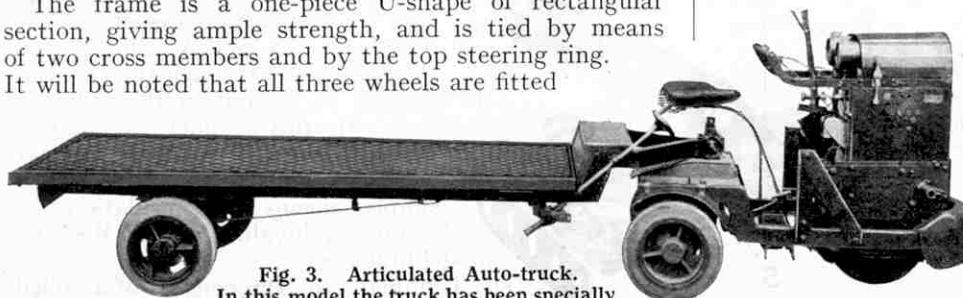

Fig. 3. Articulated Auto-truck. In this model the truck has been specially designed for use as a tractor.
Another type of Lister truck, specially designed for drawing a trailer, is shown in Fig. 3. The mechanical features of this truck are
Fig. 3 shows a 6 B.A. Bolt 5 used as the contact stud in a Meccano Morse key, or tapper. The bolt is insulated from the base plate, but the key 4 is in metallic contact with it. One wire is attached to the bolt 5 and another to the base plate, so that the circuit is completed whenever the bolt 8 of the key touches bolt 5.